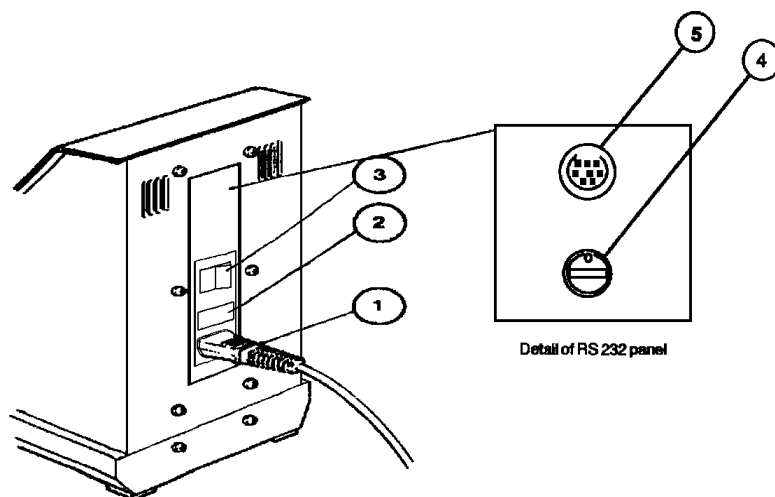

Figure 5.2 Rear Panel
1. The communications switch (see figure 5.2, item 4) must be set to one of the following positions
2. If you wish to use an external device then insert the small end of the Serial Cable (926 09 051) into the socket on the rear of the M926 (figure 5.2, item 5); insert the 9way plug at the other end of the serial cable into the serial input socket of the external device, a printer, the marked input on the Datagate Intelligent Interface or a computer serial interface.